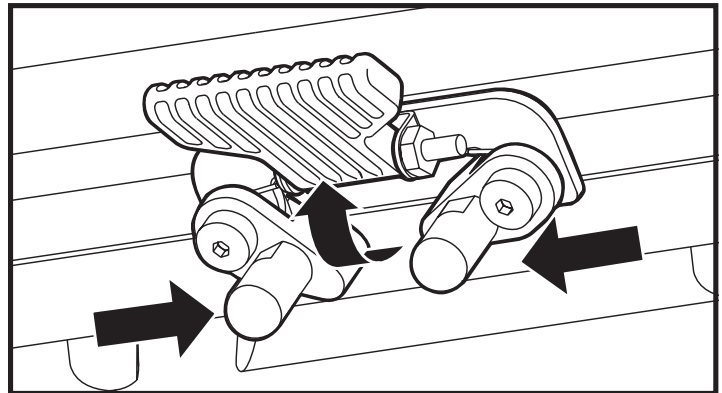

Figure 15. Seat Latch Safety (Disengaged)
3. Flip up the seat latch safety. See figure 15.